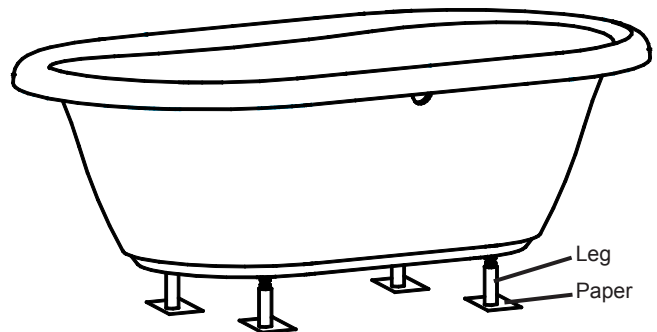

Figure 15. Bath Location with Pedestal Legs
3. Fasten a piece of paper at the permanent location where each of the four pedestal legs will be attached to the floor. The paper should be fastened with tape in a manner that it does not move, see Figure 15.